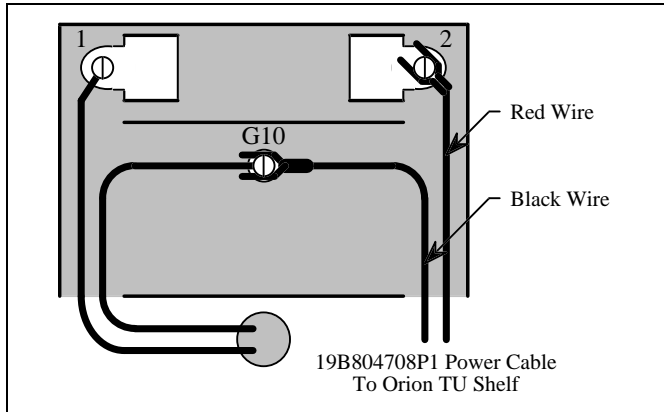

Figure 14 - Fuse Box on Older Power Supply
- Remove the fuse box cover from the DC power supply (see Figure 14).